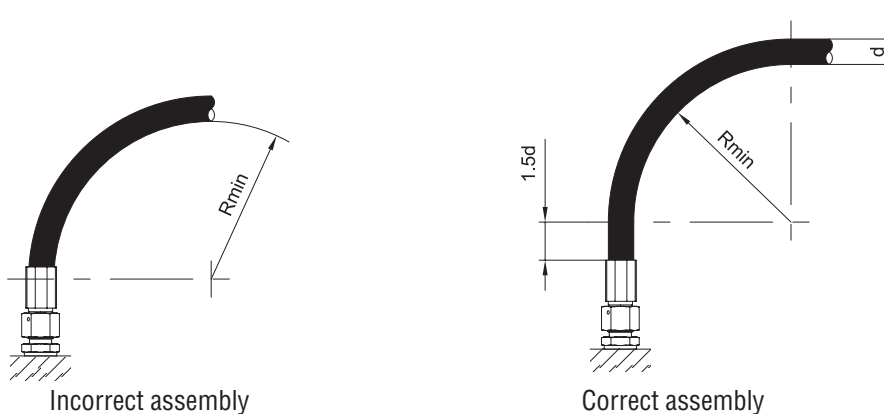

Fig. 4
4. If the flexible hose must be bent, its length must be such to maintain the minimum bending radius allowed and start the curve only after a length equal to $1.5d$. If this prescription can not be complied with, arrange for a protection in the folding area (Fig.4).